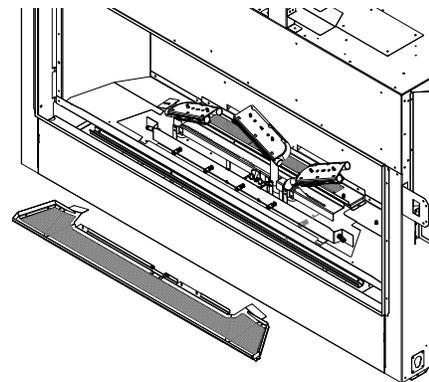

Figure 8.9 - Step 2
2. Remove the front media tray via (2) screws. Figure 8.9.